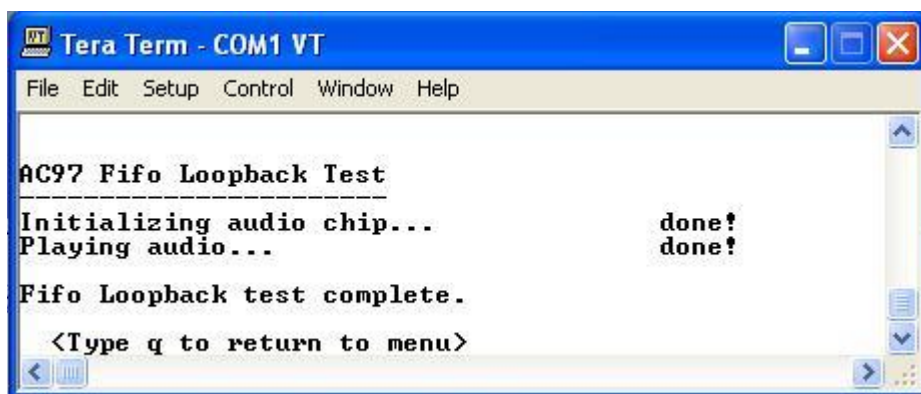

Figure D-17: FIFO Loopback Test Completion
4. The terminal window output for the FIFO Loopback test is shown in Figure D-17.